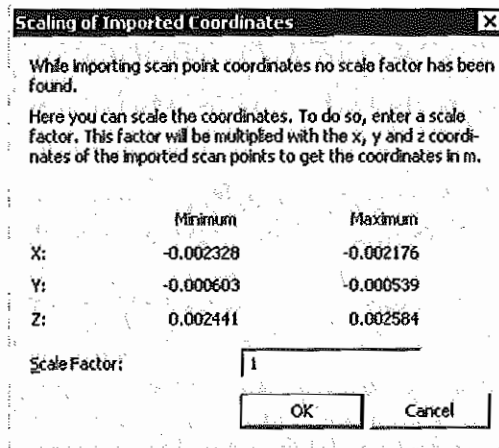

Figure 4.16: Dialog Scaling of Imported Coordinates
- ☞ If you are importing geometry from a file in ASCII format or a file in Universal File format which does not contain data set 164 with the units of the coordinates, you have to enter a scaling factor in the dialog 3D Alignment (refer to FIGURE 4.16). Factor 1 stands for the unit 1 m, factor 0.01 for the unit 1 cm etc.